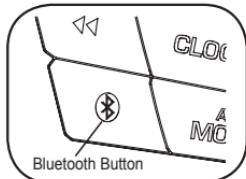

figure 3
- press the Bluetooth button in your car (figure 3) for about 5 seconds until you hear 3 continuous beeps.